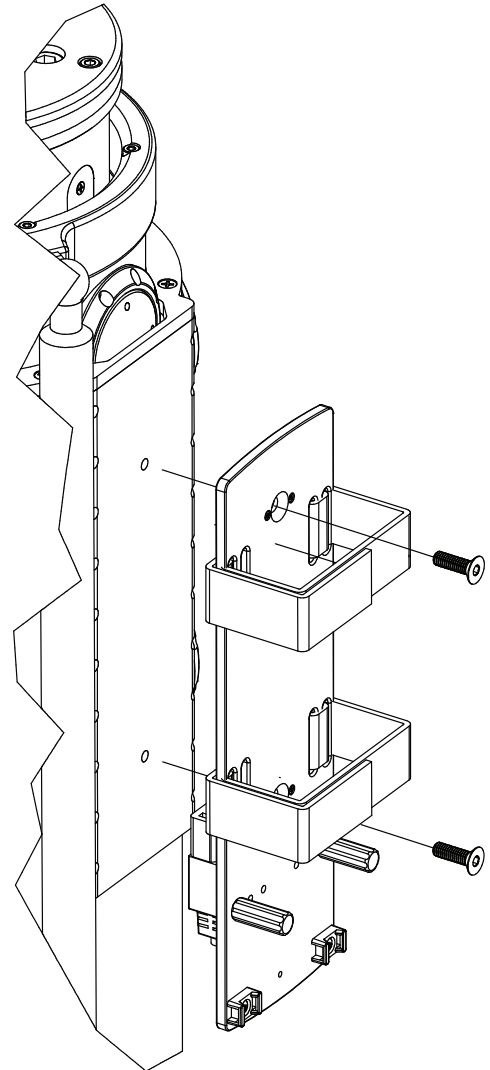

Figure 2 - Attaching the Bracket to the Column
2. Attach the bracket to the column, using the screws provided in the bracket kit (Figure 2).